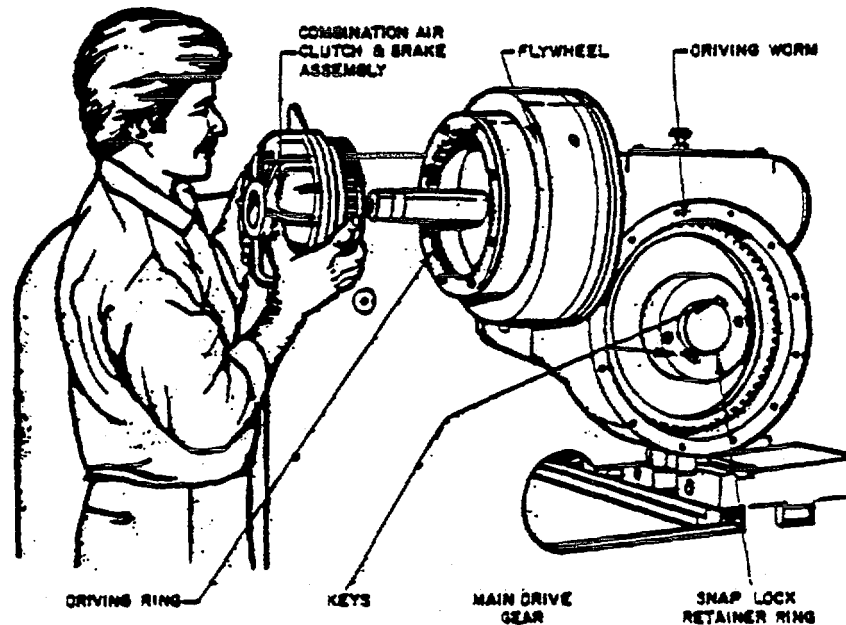

Figure 31. Gear Drive Assembly
- (2) Remove cylinder air lines "B" and "C".
- (3) Remove lock nut "D". In order to do this, an ear on the lock washer under the nut must be bent open.
- (4) Remove brake bracket bolts "r" and "J" and remove the bracket.
- (5) The entire clutch and brake assembly can now be slipped off of the shaft as shown in Figure 31.
The Gear Drive Assembly for the shear is designed to provide maximum life with minimum maintenance (Figure 31).